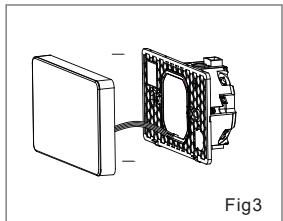

Fig3
Step 3 : Snap the thermostat screen and the mounting plate together to complete the installation.Power on for testing.(Fig3).